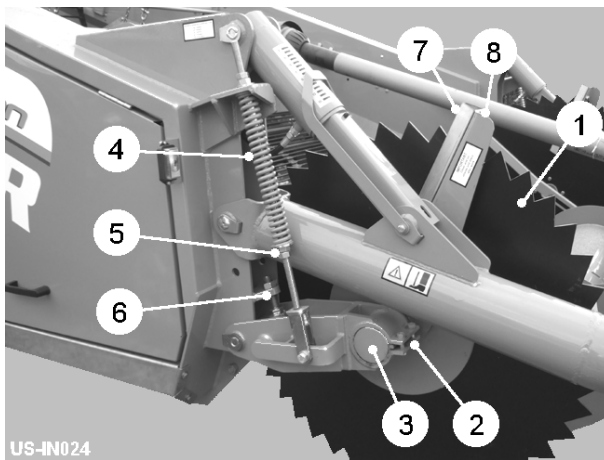

Fig 10
The discs (item 1, fig 10) cut and contain the soil while feeding it over the shares onto the stars. The disc width setting is adjusted by loosening the clamp bolts (item 2, fig 10) and sliding the disc hub (item 3, fig 10) to the new position. The pressure setting of the discs is set on the springs (item 4, fig 10). The spring pressure should be sufficient to keep the disc turning in the soil while at the same time allow it to rise up over any obstructions. Spring pressure is increased/decreased by raising/lowering the bottom spring rod locknuts (item 5, fig 10). Maximum disc height is limited by the depth stop (item 6, fig 10).
As the disc scrapers (item 7, fig 10) wear, they should be adjusted closer to the disc. To do this, slacken the clamp bolts (item 8, fig 10) and reposition the scrapers until just clear of the disc surface and retighten.